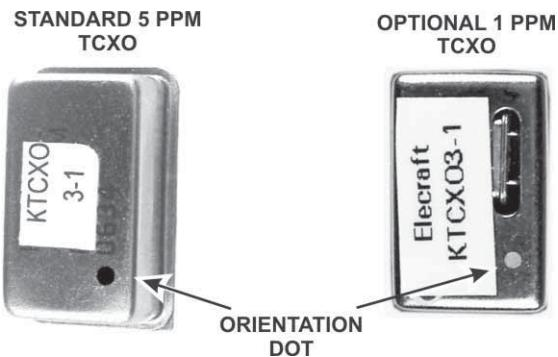

Figure 67. TCXO Modules.
- Locate the Temperature-Compensated Crystal Oscillator (TCXO) module. If you ordered the optional 1 ppm TCXO it will be supplied **instead** of the standard 5 ppm module (see Figure 67).